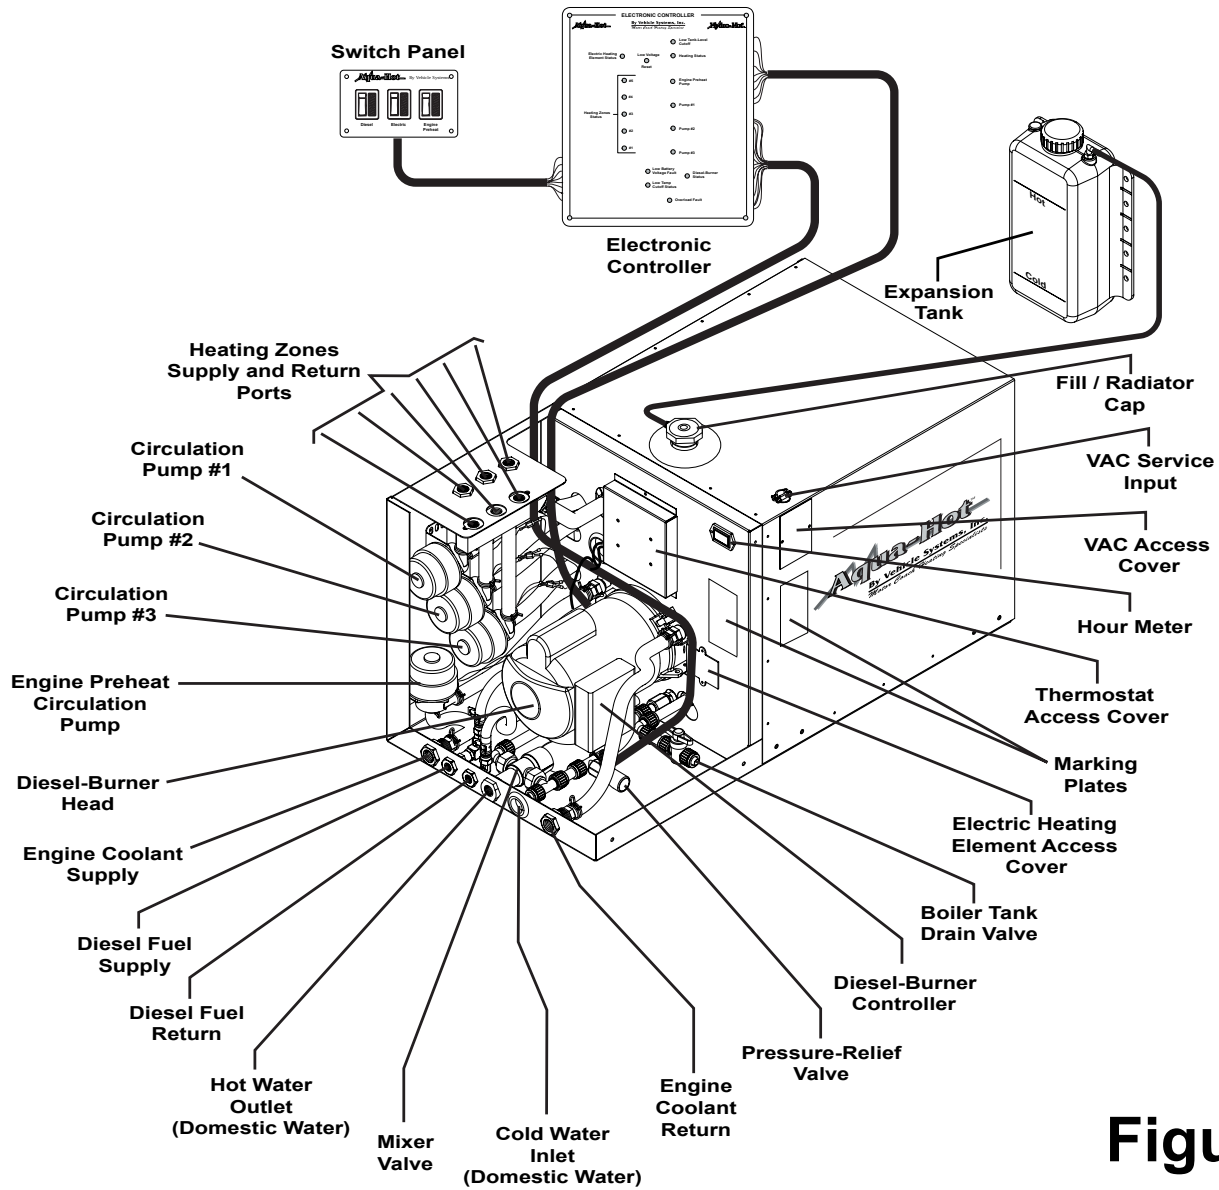

Figure 1
**Reference Figure 1
Vehicle Systems, Inc. manufactures three individual models of the *Aqua-Hot Hydronic Heating System*. The varying factor between these three models is the number of *Electric Heating Elements* featured, as well as the voltage employed by each *Electric Heating Element*. In order to determine which of the following Aqua-Hot models has been employed, locate the *Marking Plate* on the Heating System (reference Figures 1 and 2 for Marking Plate information) and view the *Model* number.
This indicator light will illuminate GREEN whenever the *Engine Preheat Pump* is operating; reference Figures 1 and 5. Please note that this light will only be active if the "*Engine Preheat*" switch is **ON** in conjunction with either the "*Diesel*" and/or the "*Electric*" switch; reference Figure 4. If this indicator light illuminates RED, it indicates an electrical overload condition (i.e., a short) has occurred in this particular component's circuitry.
This indicator light will illuminate GREEN whenever *Circulation Pump #1* is operating; reference Figures 1 and 5. Please note that this light will only be active if the Aqua-Hot is at normal operating temperature (i.e., between 160°F and 190°F) and *Heating Zone #1* is calling for heat; reference Appendix A. If this light illuminates RED, it indicates an electrical overload condition (i.e., a short) has occurred in this particular component's circuitry.
This indicator light will illuminate GREEN whenever *Circulation Pump #2* is operating; reference Figures 1 and 5. Please note that this light will only be active if the Aqua-Hot is at normal operating temperature (i.e., between 160°F and 190°F) and if either *Heating Zones #2, #3, or #4* are calling for heat; reference Appendix A. If this light illuminates RED, it indicates an electrical overload condition (i.e., a short) has occurred in this particular component's circuitry.
This indicator light will illuminate GREEN whenever *Circulation Pump #3* is operating; reference Figures 1 and 5. Please note that this light will only be active if the *Aqua-Hot* is at normal operating temperature (i.e., between 160°F and 190°F) and *Heating Zone #5* is calling for heat; reference Appendix A. If this light illuminates RED, it indicates an electrical overload condition (i.e., a short) has occurred in this particular component's circuitry.
This indicator light will illuminate GREEN whenever the *Aqua-Hot's Diesel-Burner* is operating and supplying heat to the *Aqua-Hot's Boiler Tank*; reference Figures 1 and 5. Please note that this light will only be active if the "*Diesel*" switch is turned **ON**; reference Figure 4.